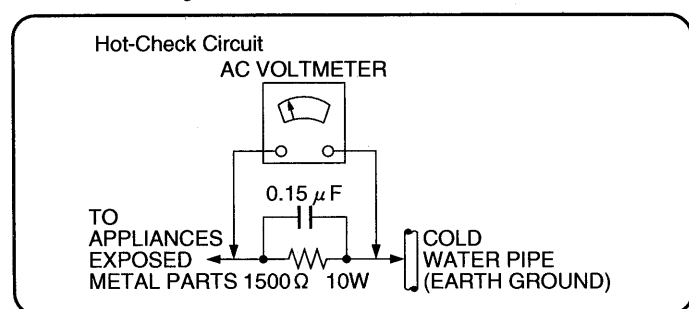

Figure 1
LEAKAGE CURRENT HOT CHECK (See Figure 1.)
2. Connect a $1.5\text{k}\Omega$, 10 watts resistor, in parallel with a $0.15\ \mu\text{F}$ capacitors, between each exposed metallic part on the set and a good earth ground such as a water pipe, as shown in Figure 1.